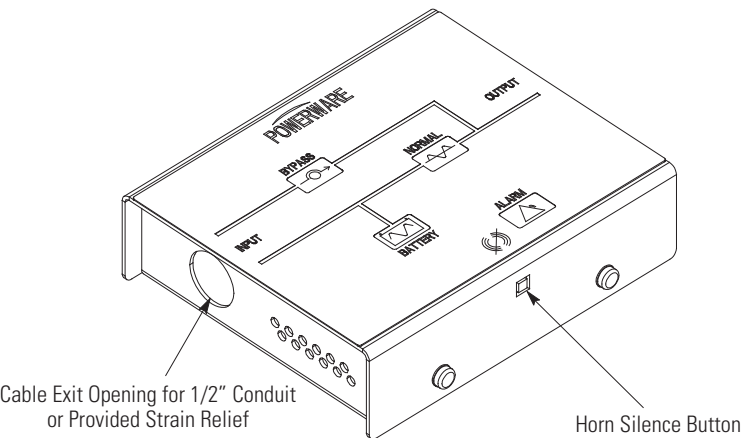
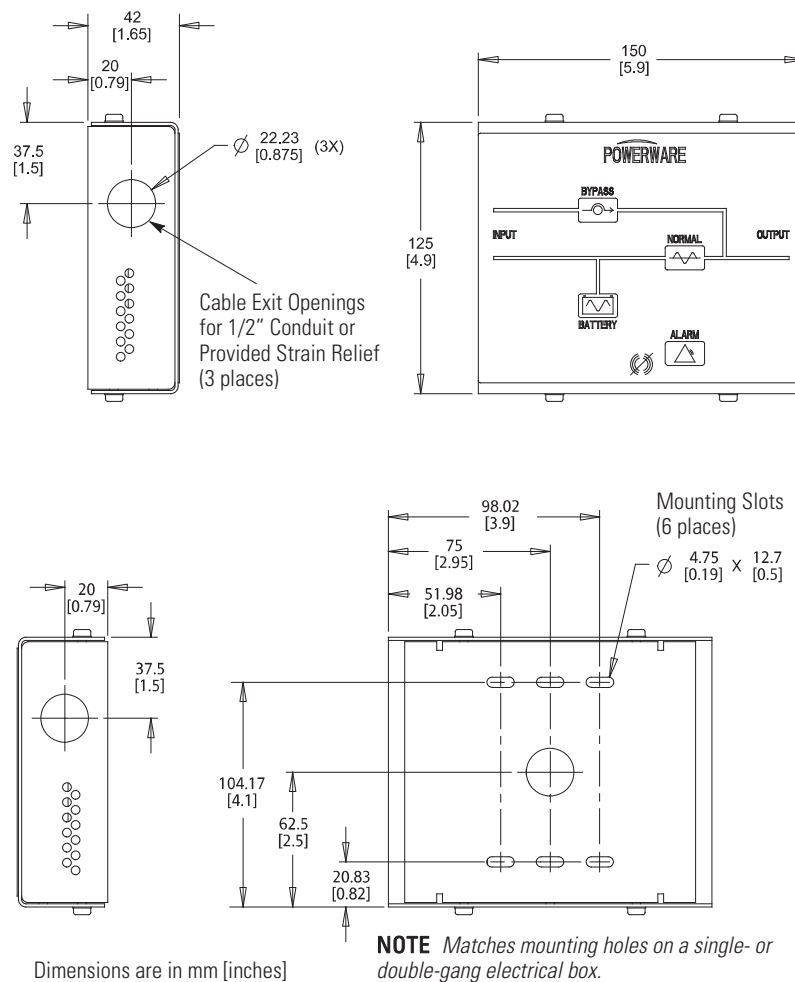

Figure 53. Remote Monitor Panel
Figure 54. RMP Dimensions
The optional RMP can be installed to monitor the operation of the UPS from virtually any location within your facility, up to 152.4m (500 ft) from the UPS. You can surface-mount an RMP on a desktop or on a wall, wherever you have a serial interface line. Figure 53 shows an RMP. Figure 54 shows the enclosure dimensions and cable exit openings.
2. Install 1/2" conduit from the RMP to the IRC through the cable exit openings (see Figure 54). Proceed to Step 4.